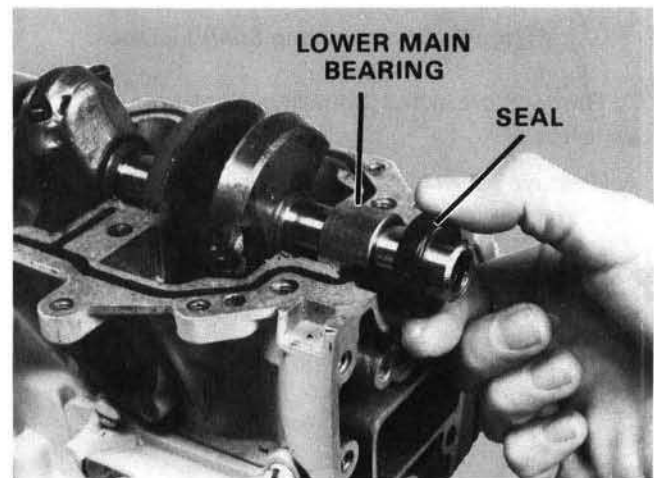

Figure 15. Removing Seal and Lower Main Bearing.
B. Remove four (4) hex socket head cap screws securing crankcase cover to cylinder block at center and lower main.
C. Remove eight (8) screws securing crankcase cover to cylinder block at parting line.
B. Lift crankshaft slightly at lower main journal and slide both seal and lower main bearing from crankshaft. Figure 15.